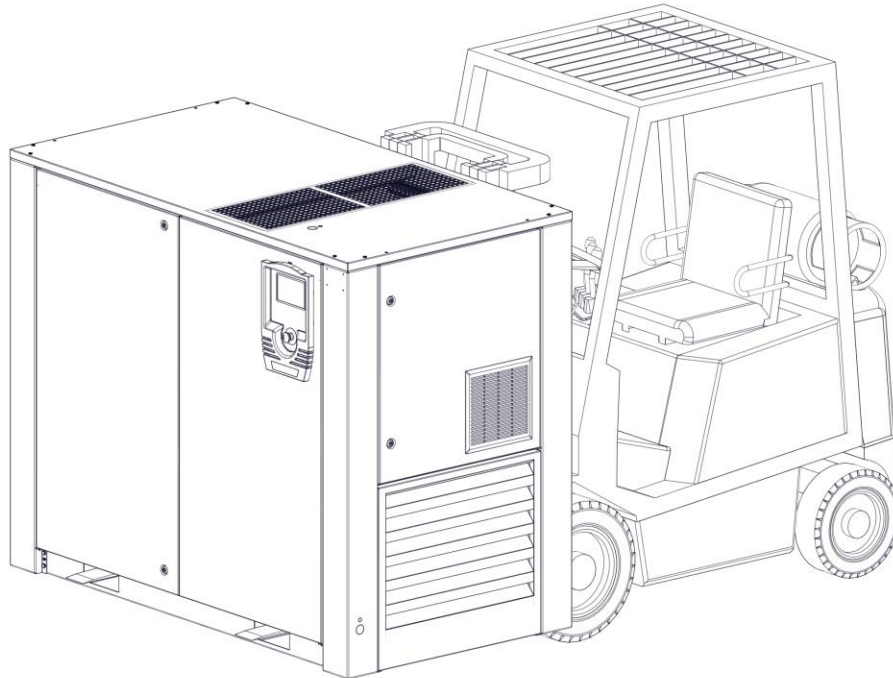

Figure 13 Transportation of Compressor with Forklift
- While the compressor is carried by forklift, pay attention to carry it not higher than necessary for slow and easy handle(Figure 13).